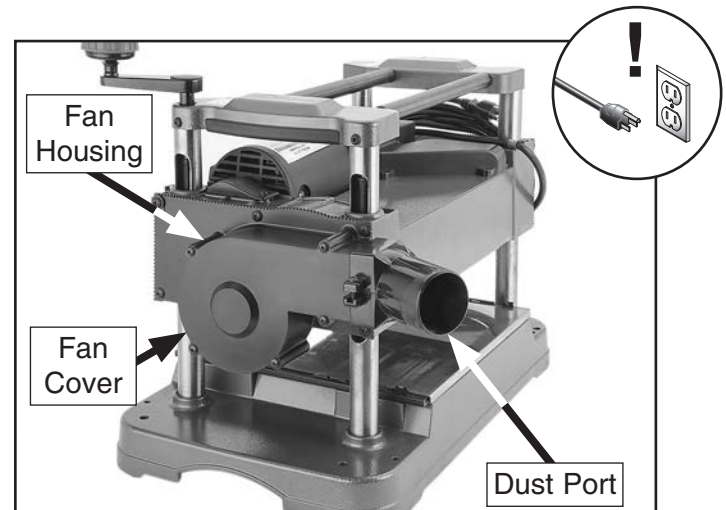

Figure 32. Hardware attaching fan housing.
3. Remove (5) M5-.8 x 15 tap screws that secure fan housing cover (see **Figure 32**).
5. Remove (5) M6-1 x 12 Phillips head screws (see **Figure 32**) to remove fan housing and expose V-belt.